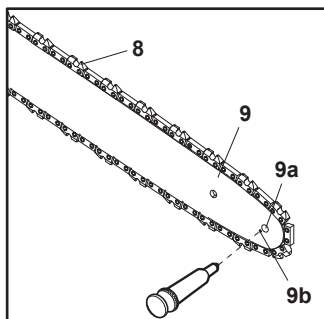

Fig. 36
2. Using a disposable lube gun, insert the needle nose into the lubrication hole (9b) (Fig. 36) and inject grease until it appears at the outside edge of the sprocket wheel (9a).